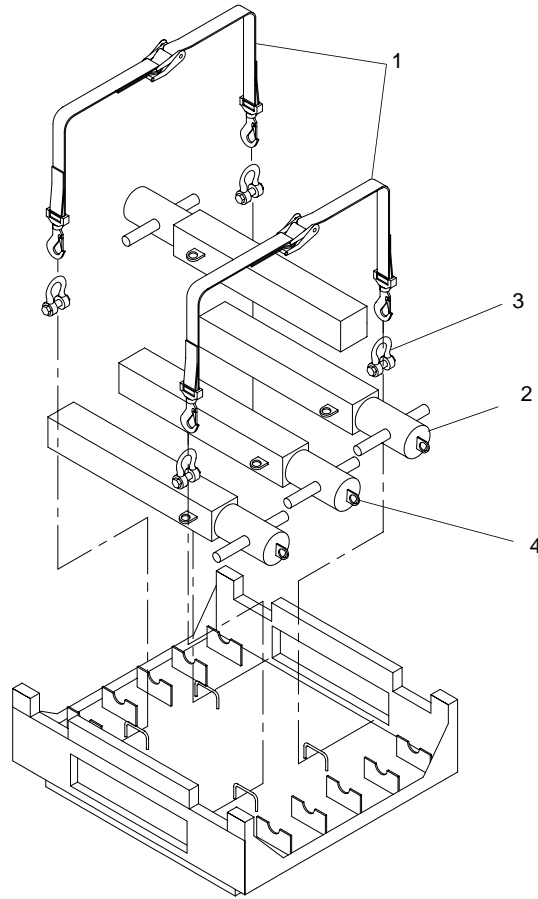

Figure 14. Unpacking Mooring Bitts
7. Remove tie down straps (figure 14, item 1) securing mooring bitts (figure 14, item 2) to shackles (figure 14, item 3) in pallets.
8. Using forklift and slings, remove the mooring bitts (figure 14, item 2) from the pallets.
9. Remove four shackles (figure 14, item 3) from each pallet.
10. Install a shackle (figure 14, item 3) on the end (figure 14, item 4) of each mooring bitt (figure 14, item 2).